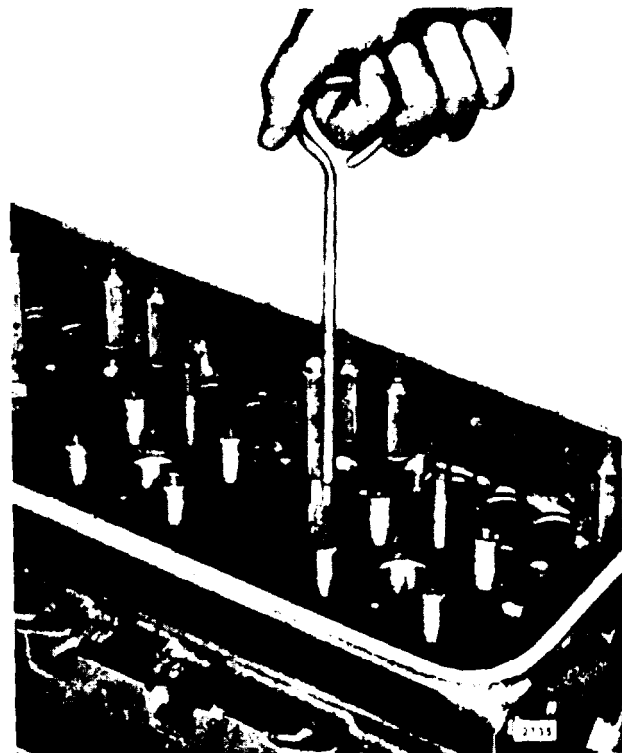

Figure 11B-53. Cleaning Valve Guide
2. Position the valve guide squarely in the bore in the cylinder head and press the installing tool gently to start the guide in place (see Figure 11B-56 on page 11B-37). Then press the guide in until the tool contacts the cylinder head.